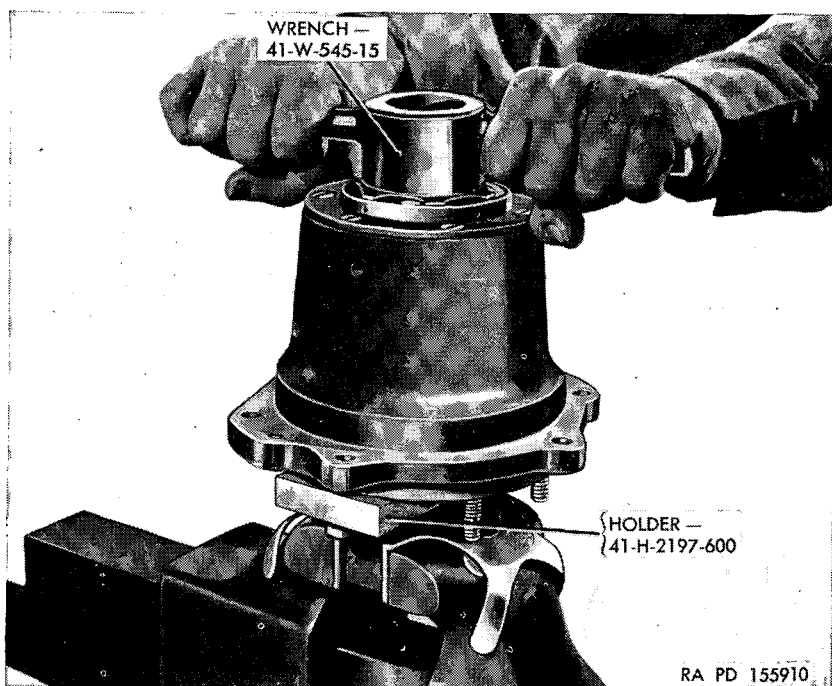
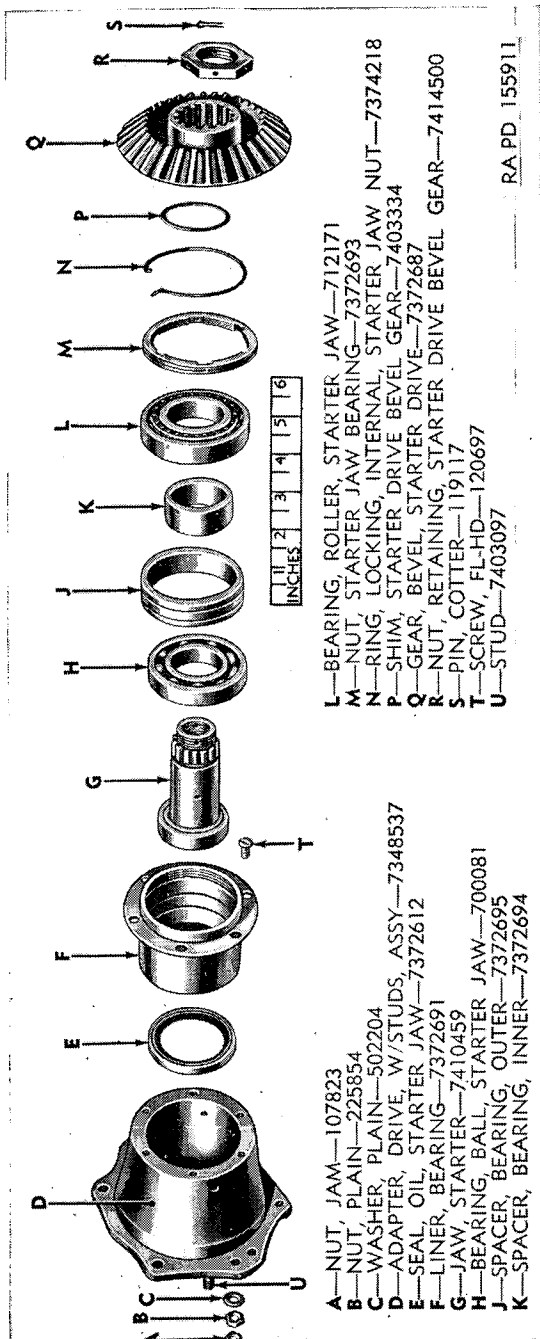
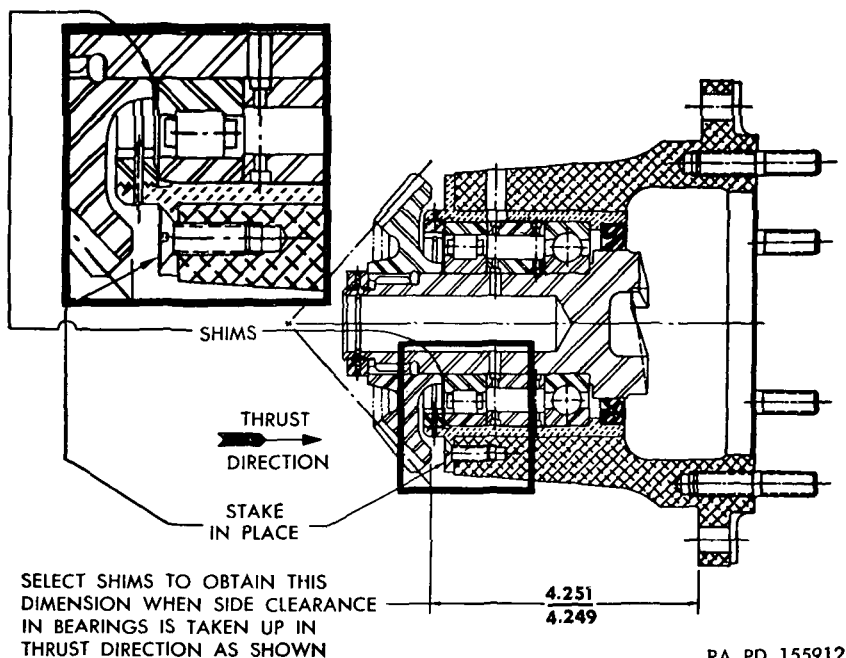

Figure 40. Tightening starter jaw bearing retaining nut.
Figure 41. Starter drive assembly—exploded view.
Figure 42. Shimming starter drive bevel gear.
- (c) Place one of the impeller driven gear duplex ball bearings (H) on the splined end of the impeller driven gear with the thrust side (so marked) away from the gear end. Place the impeller driven gear inner and outer bearing spacers (J) and (K) on the thrust side of the bearing. Place the other half of the duplex bearing on the impeller driven gear with the thrust side engaging the inner and outer spacers. Center the outer spacer between the bearings to eliminate interference when inserting bearings and the impeller driven gear in the bushing-type bearings of the diaphragm.
- (d) Insert the impeller driven gear and bearing assembly in the accessory case diaphragm assembly (G) by tapping lightly with a soft hammer.
- (e) Install the impeller driven gear ball bearing retaining plates (L) with six drilled-hex-head bolts (GG) and safety wire.
- (f) Install one of the two snap rings (N) in the fan drive gear (T) and the other in the impeller drive gear (P).
- (g) Install two of the four impeller and fan drive gear roller bearings (M) on the fan drive gear and the remaining two on the impeller drive gear. These bearings have the same part number.
b. *Starter Drive Assembly* (fig. 41).
- (a) Slip holder 41-H-2197-600 (fig. 40) over the starter
- (b) Remove the starter drive bevel gear retaining nut (R). Remove the starter drive bevel gear (Q) and its shim.
- (c) Remove the internal locking ring from the starter jaw bearing nut (M), and with wrench 41-W-545-15 (fig. 40), unscrew the nut.
- (d) Remove the holder 41-H-2197-600 (fig. 40) from the adapter.
- (e) Remove the six flat-head screws from the bearing liner (F). Press the liner out of the starter drive adapter with studs assembly (D).
- (f) Press the starter jaw (G), starter jaw ball bearing (H), starter jaw roller bearing (L), and the outer and inner bearing spacers (J) and (K) from the liner.
- (g) Press the starter jaw oil seal (E) from the liner.
(3) *Assembly* (fig. 41).
- (a) Press the starter jaw oil seal (E) in bearing liner (F) with the solid face to the starter side.
- (b) Press the liner in the drive adapter with studs assembly (D) making certain the oil holes of the liner and adapter are in alignment. Install the six flat-head screws (T) and stake them in place.
- (c) Press the starter jaw ball bearing (H), the outer and inner bearing spacers (J) and (K), and the starter jaw roller bearing (L) on the starter jaw (G). Center the outer spacer between the bearings to eliminate interference when the jaw and bearing assembly is inserted into the bearing liner. Press the jaw assembly into the liner and adapter.
- (d) Install holder 41-H-2197-600 (fig. 40) on the adapter. Clamp the holder in a vise.
- (e) Install the starter jaw bearing nut (M) with wrench
41-W-545-15 (fig. 40). Insert starter jaw nut internal locking ring (N).
- (f) Install the starter drive bevel gear shim (P) and the starter drive bevel gear (Q) on the starter jaw.
- (g) Install the starter drive bevel gear retaining nut (R); tighten and check the dimension shown in figure 42. Select shims to obtain this dimension.
- (h) Install cotter pin (S) in the bevel gear retaining nut.
- (i) Remove the assembly from the holder 41-H-2197-600 (fig. 40).